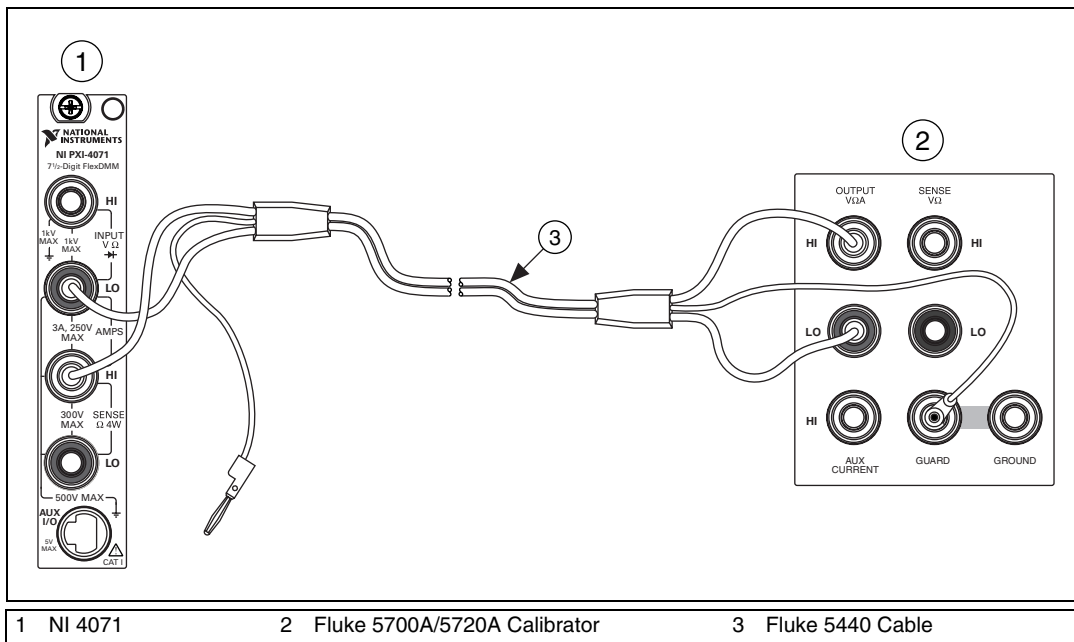

Figure 3. Cable Connections for Current
12. Connect the NI 4071 and the Fluke 5700A/5720A calibrator using the Fluke 5440 cable, as shown in Figure 3. Table 9 lists the cable connections.